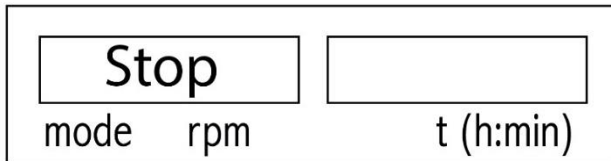
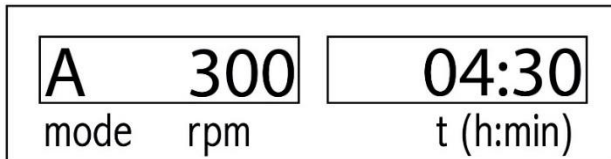

Figure 10: Operating Mode A – device is stop working
Figure 11: Operating Mode A – device is ready to work
- When the device is rotating, by pushing the left rotary knob the device will stop working after few seconds while displaying "Stop" word (figure 10) on the display. Now device is ready to work again. (figure 11)